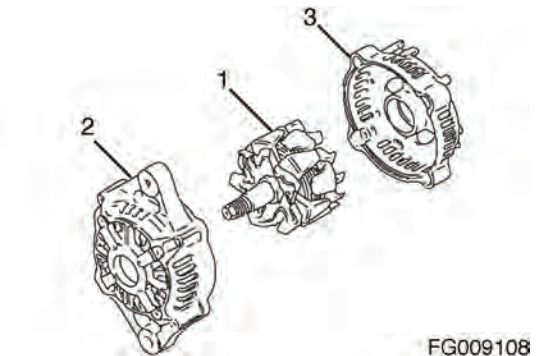

Figure 396
4. Lubricate the shaft of the rotor assembly (1, Figure 396). Press the rotor assembly into the front frame housing (2, Figure 396) and rear frame housing (3, Figure 396).